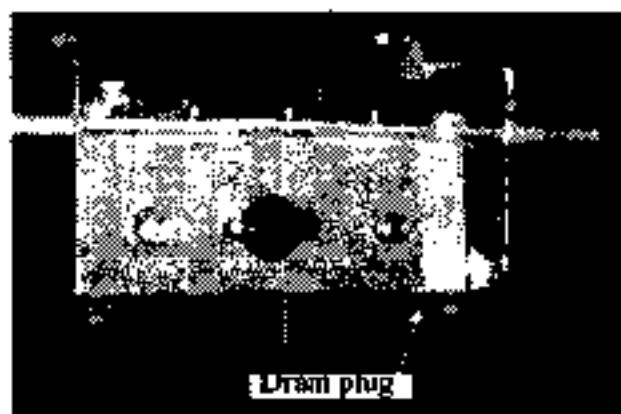

FIG 67
8) Align all the undercarriage wheels with a straight edge and tighten the clamp on the center hub to maintain alignment. See Fig 67.